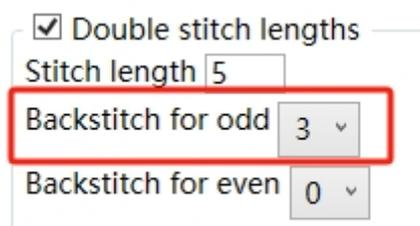

Fig. 5.4.2f Backstitch for Odd Setting
③ Backstitch for odd and backstitch for even. After selecting the number of backstitches, the number of backstitches will be set in the odd or even segments. Here, 3 times of backstitch for odd is taken as an example. The setting is shown in Fig. 5.4.2f below. At this time, three backstitch will be performed in the odd-numbered sections.